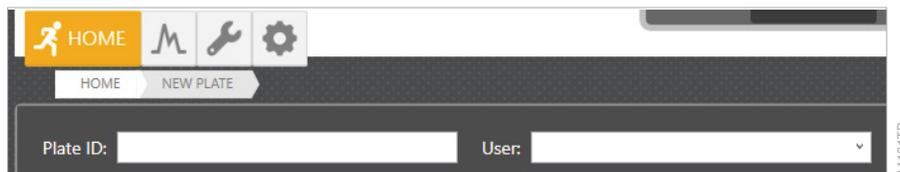

Figure 9. 'Plate ID' and 'User' fields of the plate screen.
2. Use the default Plate ID that includes date and time or enter information into the 'Plate ID' field (Figure 9).
3. If desired, enter user information into the 'User' field (Figure 9).
Note: The 'User' field is a user-defined section that can be used to search or filter previously created or completed plates (refer to the *Spectrum CE System Operating Manual #TMD052* for information on reviewing plate records). Previously entered user information is available via the drop-down option on the right side of the field (Figure 9).